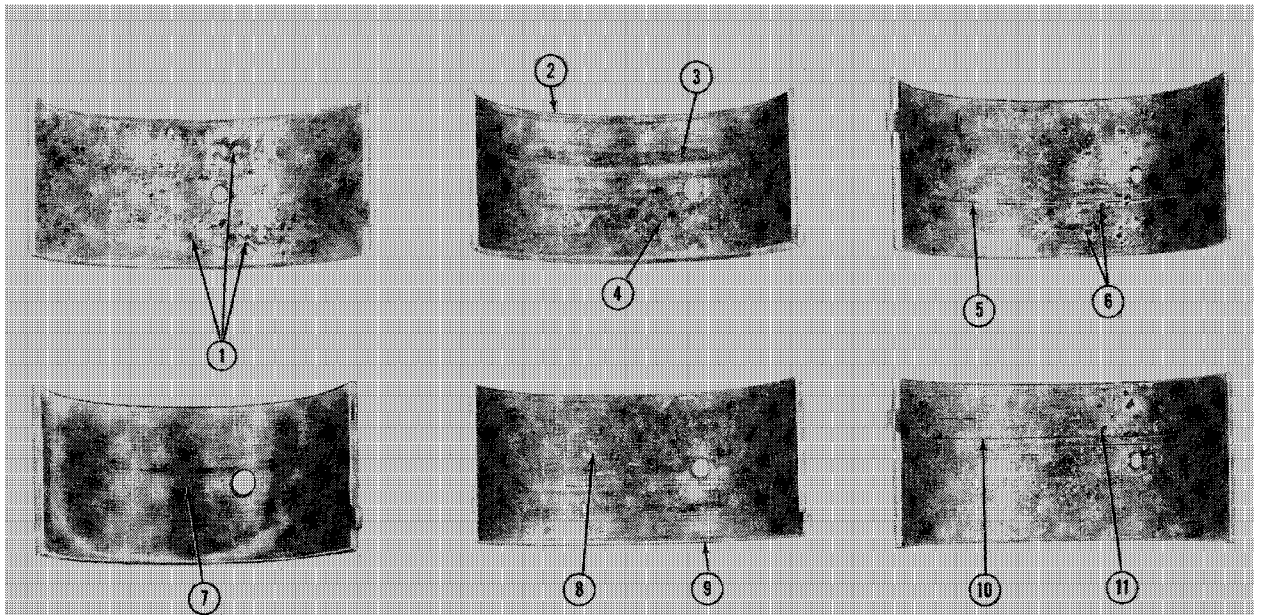

Figure 35
1. If the bearing liners are scored, have the flash overlay wiped out, show fatigue failure, or are badly scratched, as shown in Figure 35, install new bearing liners.